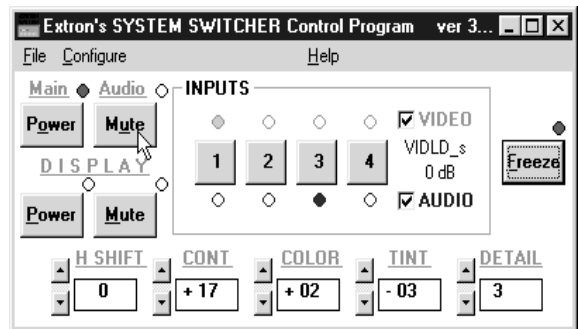
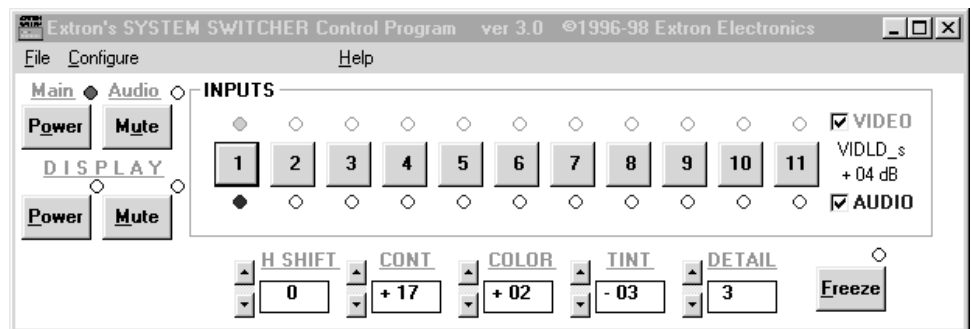

Figure 5-4. Example of a System 4*x*_i (LD/LQ) Panel with no Slave Switchers
Figure 5-5. Example of a System 4*x*_i (LD/LQ) Panel with a System 8 Plus as a Slave Switcher
5. After you have selected the Comm Port, the software looks for the System 4*x*i, "reads" its configuration, and then displays that information in a window called "Extron's System Switcher Control program". (see Figures 5-4 through 5-7)
As mentioned earlier, the window panels have the same functions as the System 4*x*_i front panel. Figure 5-4 shows four input buttons for the System 4*x*_i, while Figure 5-5 shows 11 inputs. This is an example of a System 4*x*_i, with a System 8 Plus switcher as a slave unit. Inputs 1, 2 and 3 may each have a video device connected. However, Inputs 4 through 11 are actually Inputs 1 through 8 of the slave switcher connected to the System 4*x*_i (8 + 3 = 11 inputs).